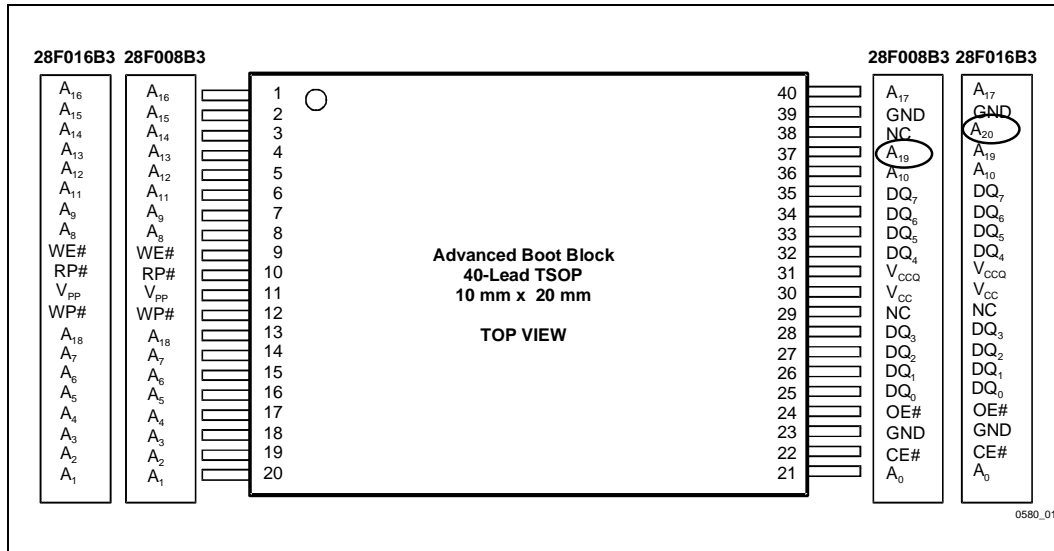
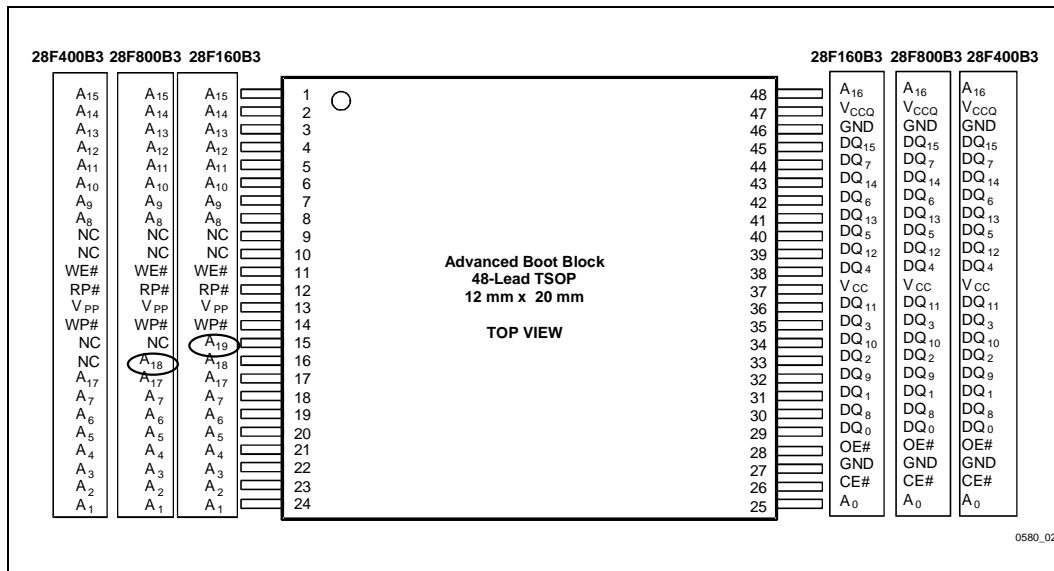
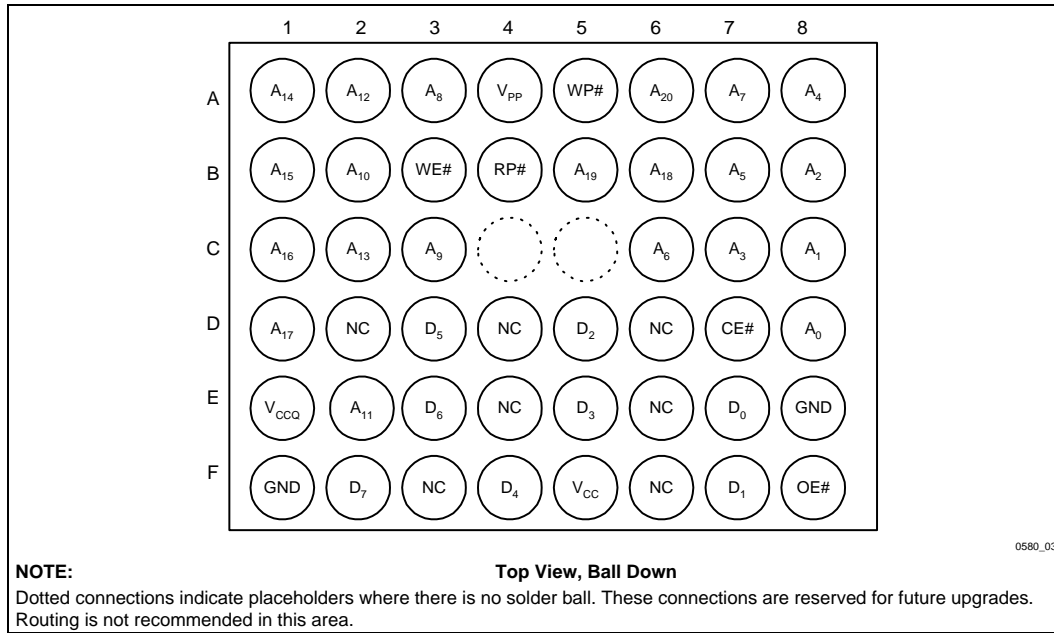
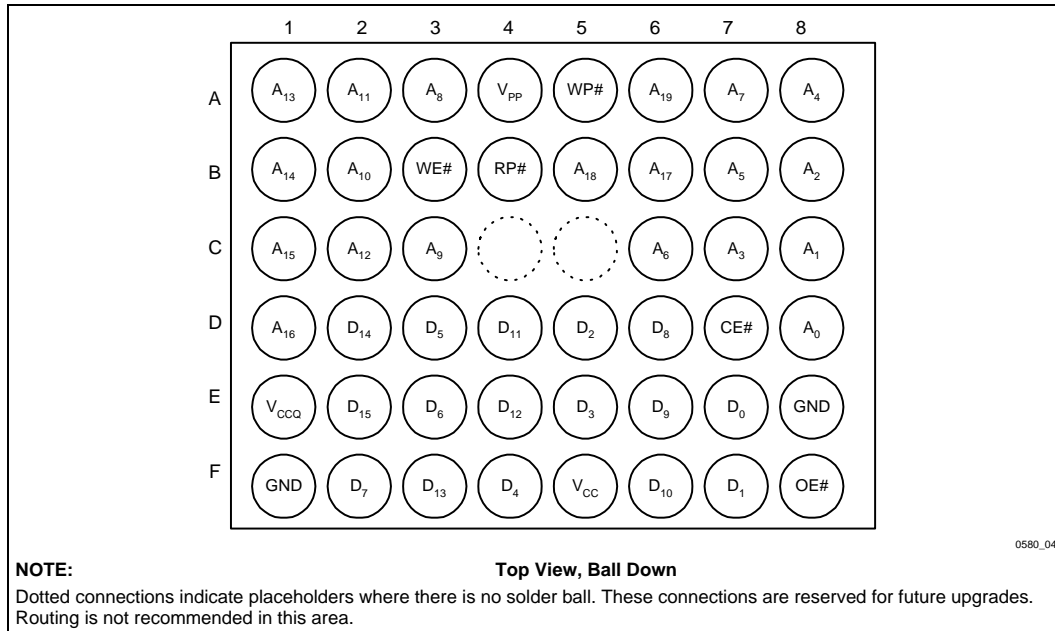

Figure 1. 8-Mbit/16-Mbit 40-Lead TSOP Package
Figure 2. 4-, 8-, 16-Mbit 48-Lead TSOP Package
Figure 3. 8-Mbit/16-Mbit 48-Ball μ BGA* Chip Size Package (8-bit version)
Figure 4. 8-Mbit/16-Mbit 48-Ball μ BGA* Chip Size Package (16-bit version)
- V_{CCQ} input of 1.65 V–2.5 V on all I/Os. See Figures 1 through 4 for pinout diagrams and V_{CCQ} location
The Smart 3 Advanced Boot Block flash memory is available in 40-lead TSOP (x8, Figure 1), 48-lead TSOP (x16, Figure 2) and 48-ball μ BGA packages (x8 and x16, Figure 3 and Figure 4 respectively). In all figures, pin changes necessary for density upgrades have been circled.